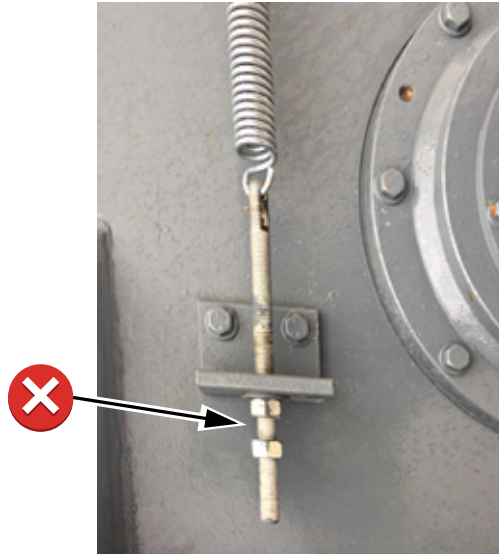
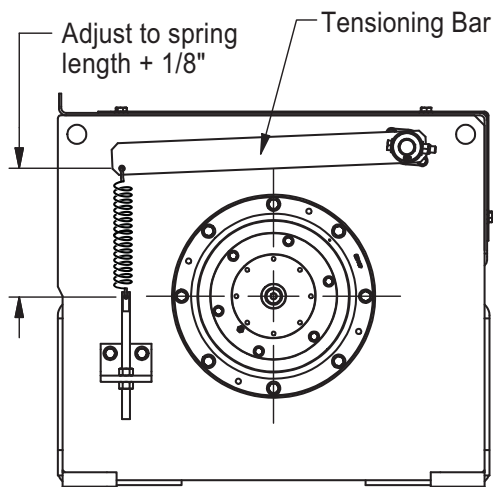

Figure 2: Incorrect Tensioning Spring Bracket and Fastener Orientation
Figure 3: Correct Tensioning Spring Bracket and Fastener Orientation
2. When looking at the winch spring adjustment nuts and bracket, ensure the bracket is configured in the proper orientation with the bracket attachment bolts on the same side as the spring. Then ensure that one tensioning nut is on the spring side, and the other nut on the opposite side of the bracket. See Figure 2 and Figure 3 on page 3.
Bolt nuts should not be both on the same side of the bracket. If configured incorrectly, release the spring tension by removing the nuts and reconfigure per Figure 3 on page 3.
**Warning!** Do not grab the tensioning bar (see Figure 3) and attempt to adjust by hand, unless all spring tension is relieved and the spring is removed.